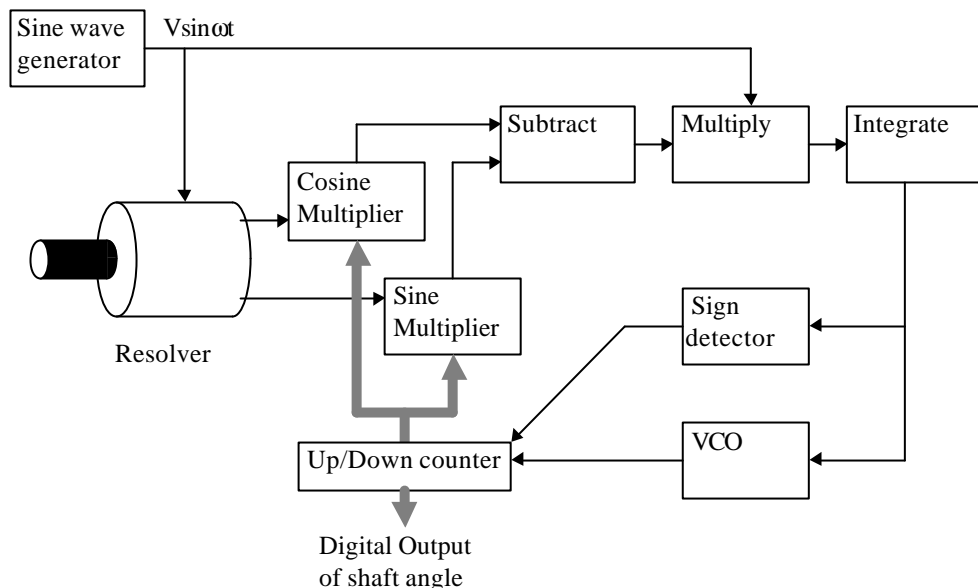

Figure Q3
- (d) By referring to Figure Q3 fully describe the operation (with relevant mathematics) of a resolver to digital tracking converter. [9 marks]